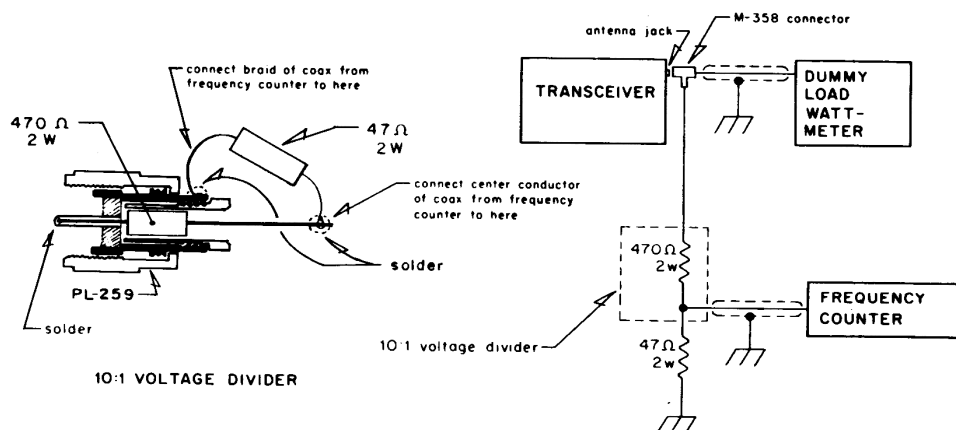

Figure 3-2. Connection of Frequency Counter and Dummy Load to Antenna Jack
***NOTE:** See figure 3-2 for connection of the frequency counter and the dummy load.
2. Connect the dummy load and frequency counter to the antenna jack as shown in figure 3-2.